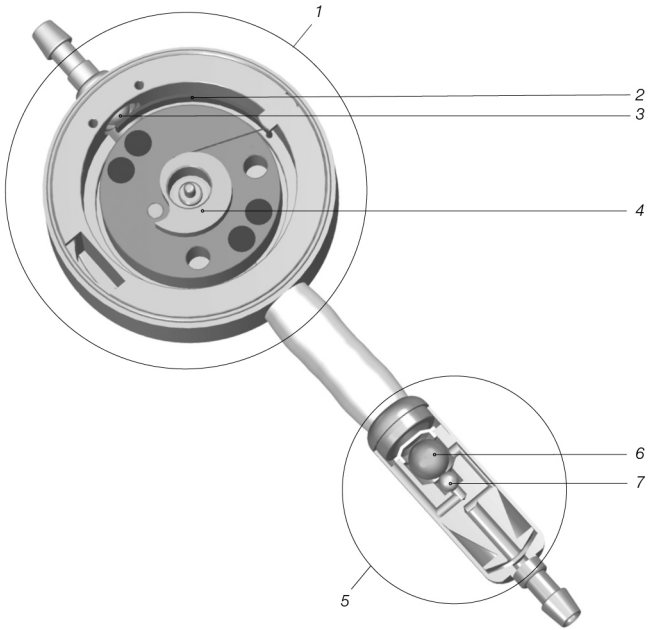

Fig. 1: proGAV 2.0 cross section
The *proGAV 2.0* is a valve system made of titanium. It consists of an adjustable differential pressure unit (1) and a gravitational unit (5) (Abb. 1).